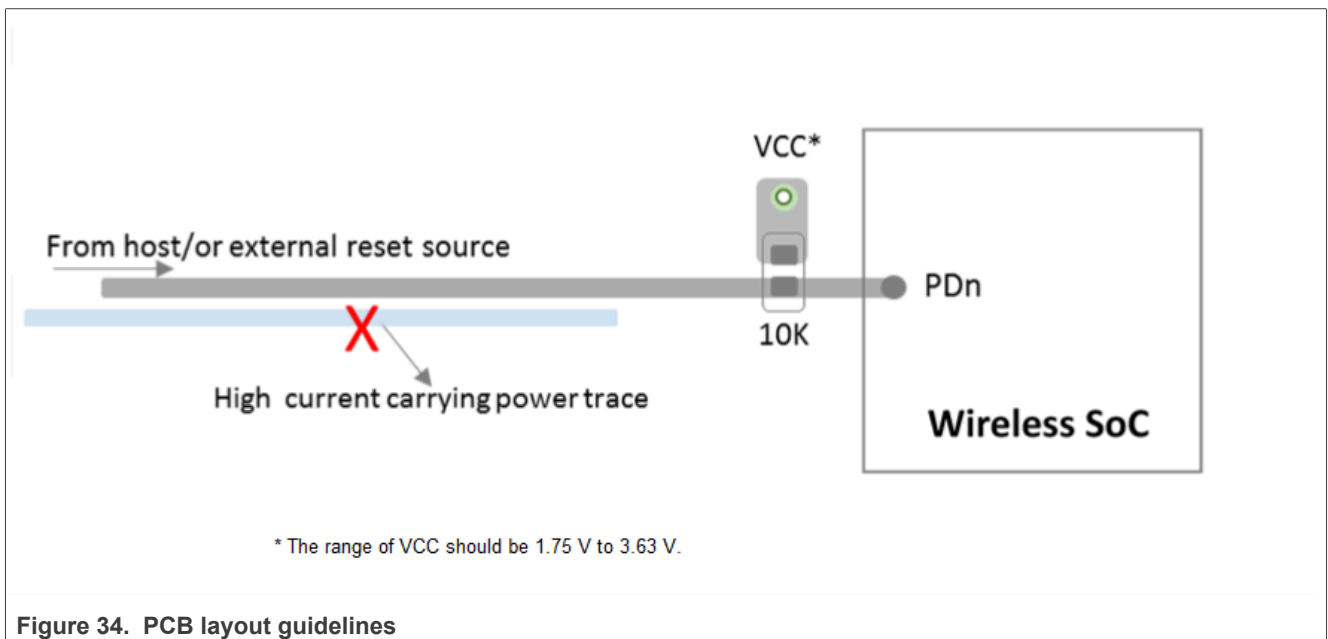

Figure 34. PCB layout guidelines
- To avoid EMI affecting the reset signal, do not route the PDn signal next to a large switching signal or on the edge of the PCB. Refer to Figure 34.